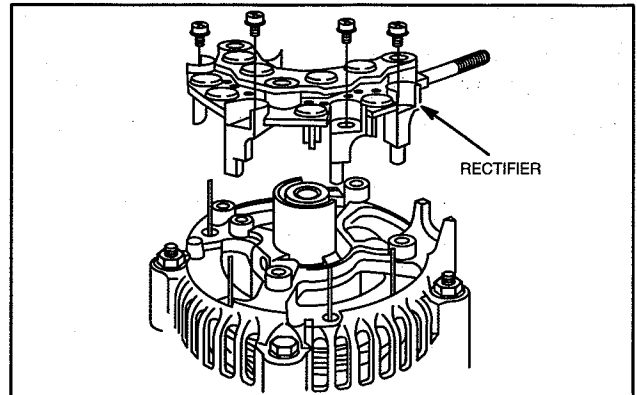

Fig. 38 - Install Rectifier
5. Align stator wires with holes in rectifier and assemble rectifier to brush end housing, Fig. 38.